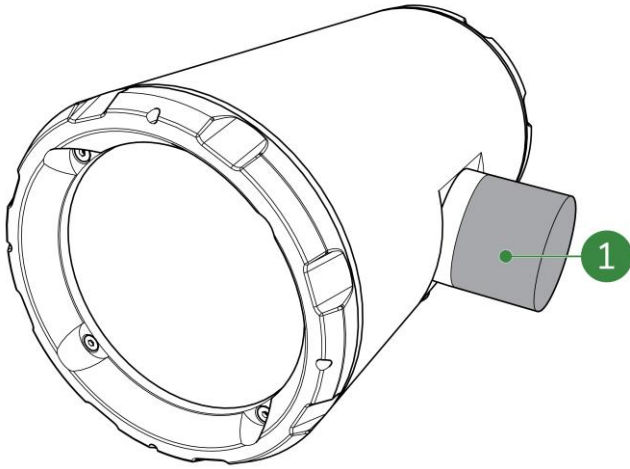

Figure 8-6: Yellow protection cap on transmitter
- place a yellow protection cap (Figure 8-6, pos. 1) on the transmitter;